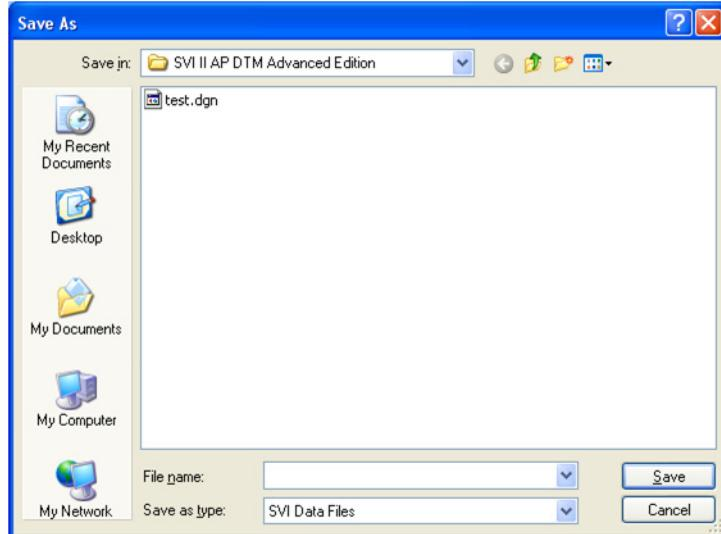

Figure 91 SVI Files Save Dialog
1. Select a file type radio button, click and Figure 91 appears.